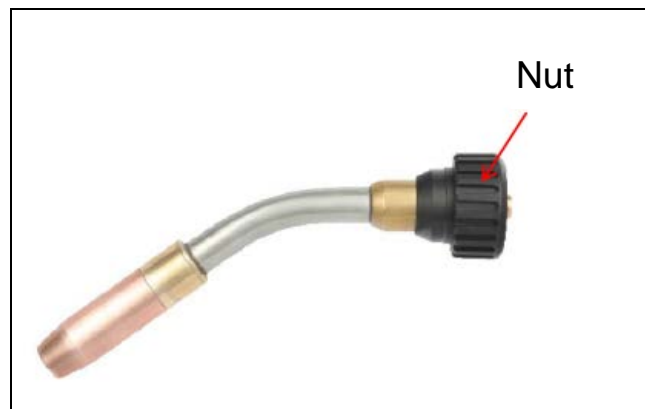

Fig. 7.6.2 Removing the nozzle
- 1 Remove the nozzle. (See Fig. 7.6.2)